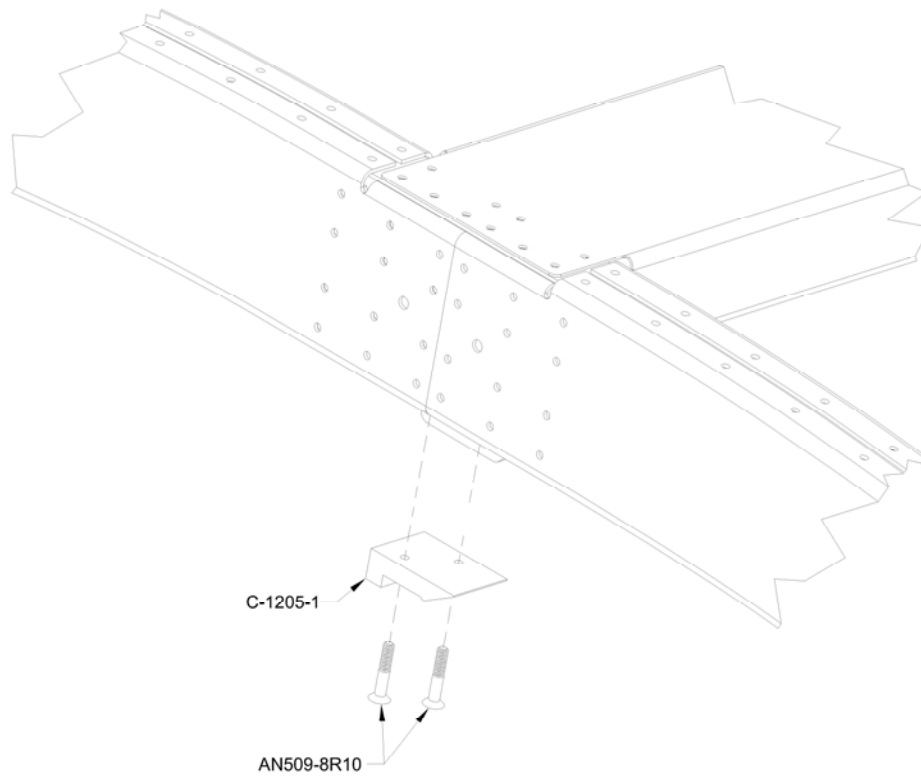

FIGURE 2: REPLACING THE LATCH BLOCK
Step 10: Machine countersink the C-1205-1 Latch Block in two places to fit the head of a #8 screw. Slightly too deep is preferable to any protrusion of the screw head. See Figure 2.
Screw the latch block to the roll bar using the hardware called out in Figure 2.
Step 24: Install the ring terminal end of the WH-W1115 (WHT) Canopy Latch Switch Ground Wire on the inboard side of the roll bar brace as shown in Figure 2.